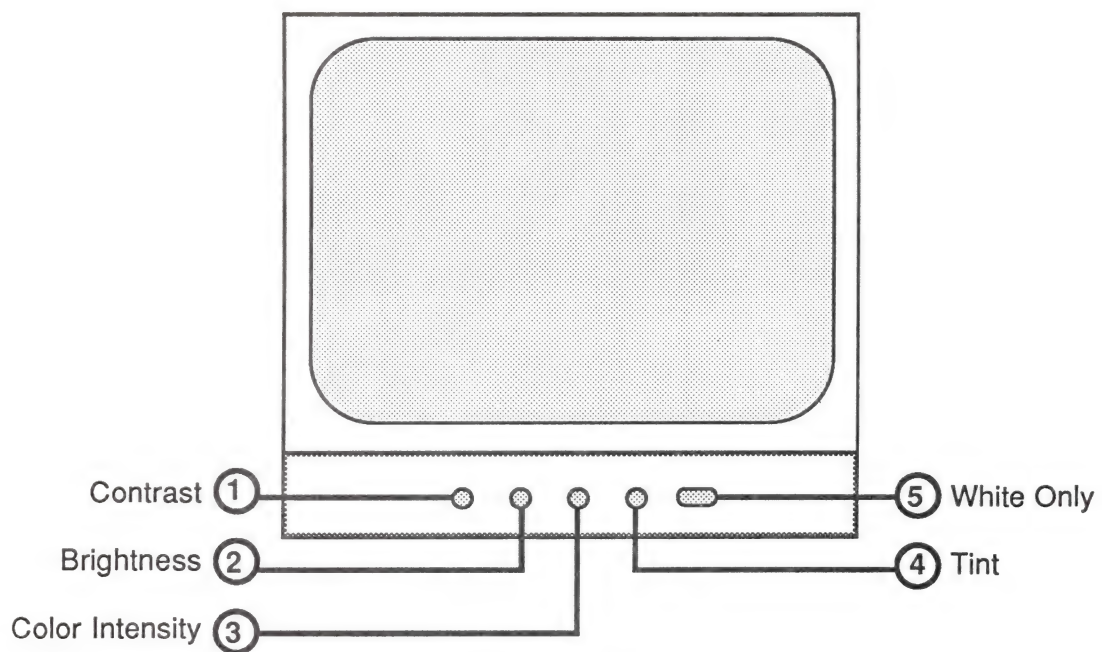

FIGURE 7
17. Return the **WHITE ONLY** switch (Figure 7, #5) to its normal position (out).